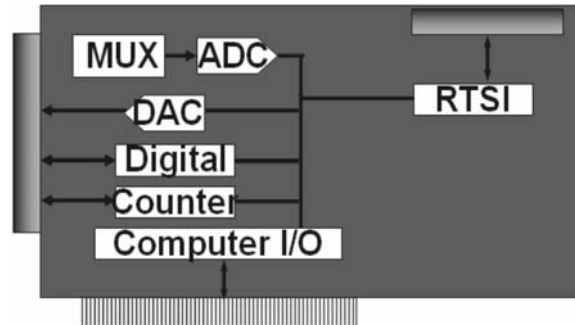

Figure 11.9 DAQ device.
- The plug-in DAQ device shown in Figure 11.9 resides in the computer. You can plug the device into the PCI slot of a desktop computer or the PCMCIA slot of a laptop computer for a portable DAQ measurement system.